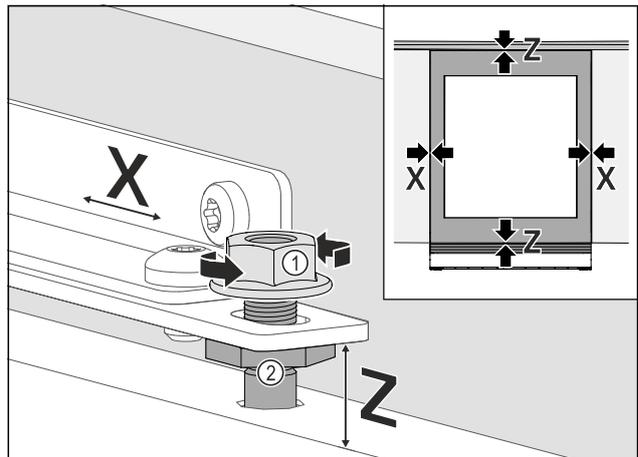

Fig. 102
- ▶ Align the unit door sideways: Loosen lock nut Fig. 102 (1), move unit door in X direction.
- ▶ Tighten the lock nuts Fig. 102 (1).
- ▶ Align the unit door in height Z and in the lateral inclination: Adjust the adjustment bolt Fig. 102 (2).